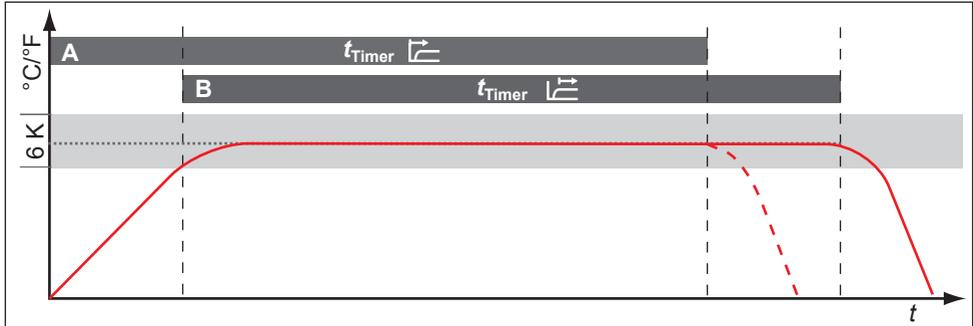

Fig. 26 Timer Mode
Here, you can choose whether the digital backwards counter with target time setting (see page 30) should run setpoint-dependent or not. This determines whether the timer should not start until a tolerance band of  $\pm 3$  K around the set temperature is reached (Fig. 26, B) or if it should start right after activation (A).